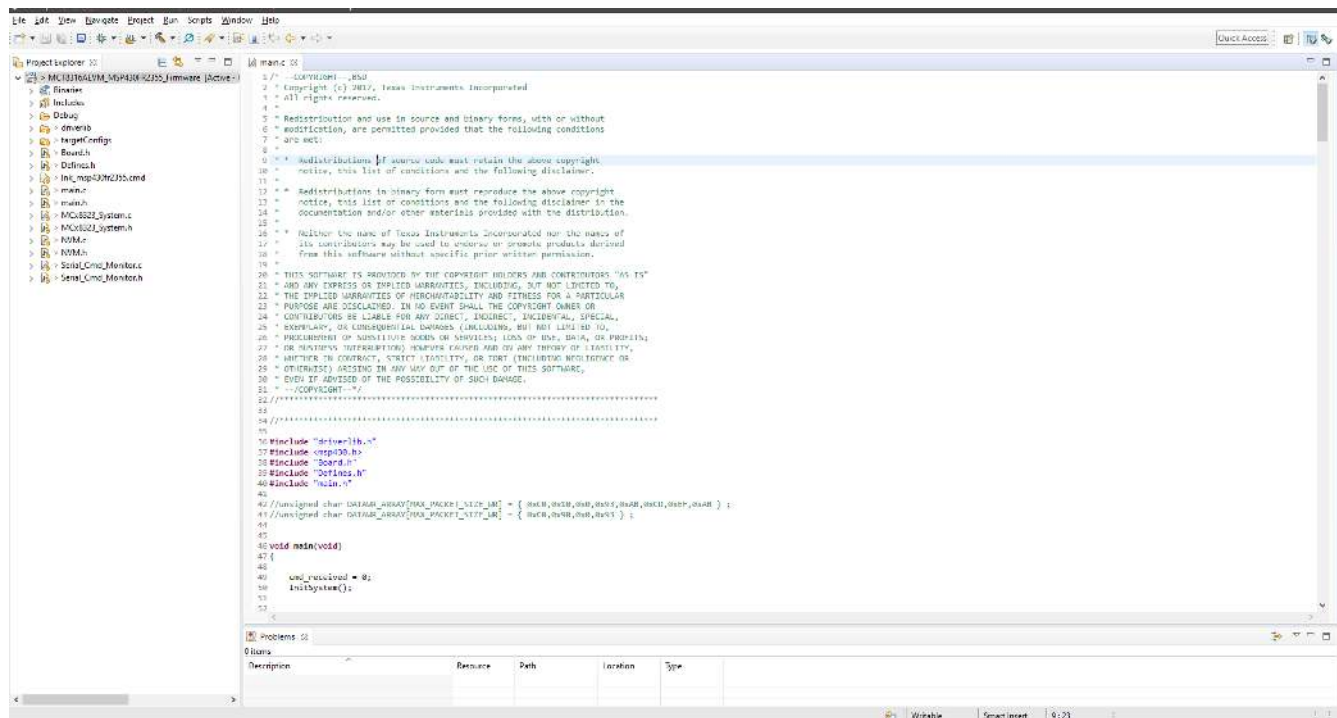

Figure 7-1. MSP430FR2355 Interface Firmware Code in Code Composer Studio
6. Import the project “MCT8316AEVM\_MSP430FR2355\_Firmware\_GUI” into your workspace as shown in Figure 7-1.